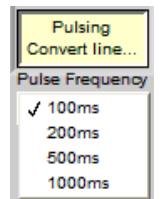

Figure 31. Pulse Frequency Selection
- **Pulse Convert line** controls pulse frequency, as shown in Figure 31. You can choose from one of four pulse frequencies: 100 ms, 200 ms, 500 ms, and 1000 ms.